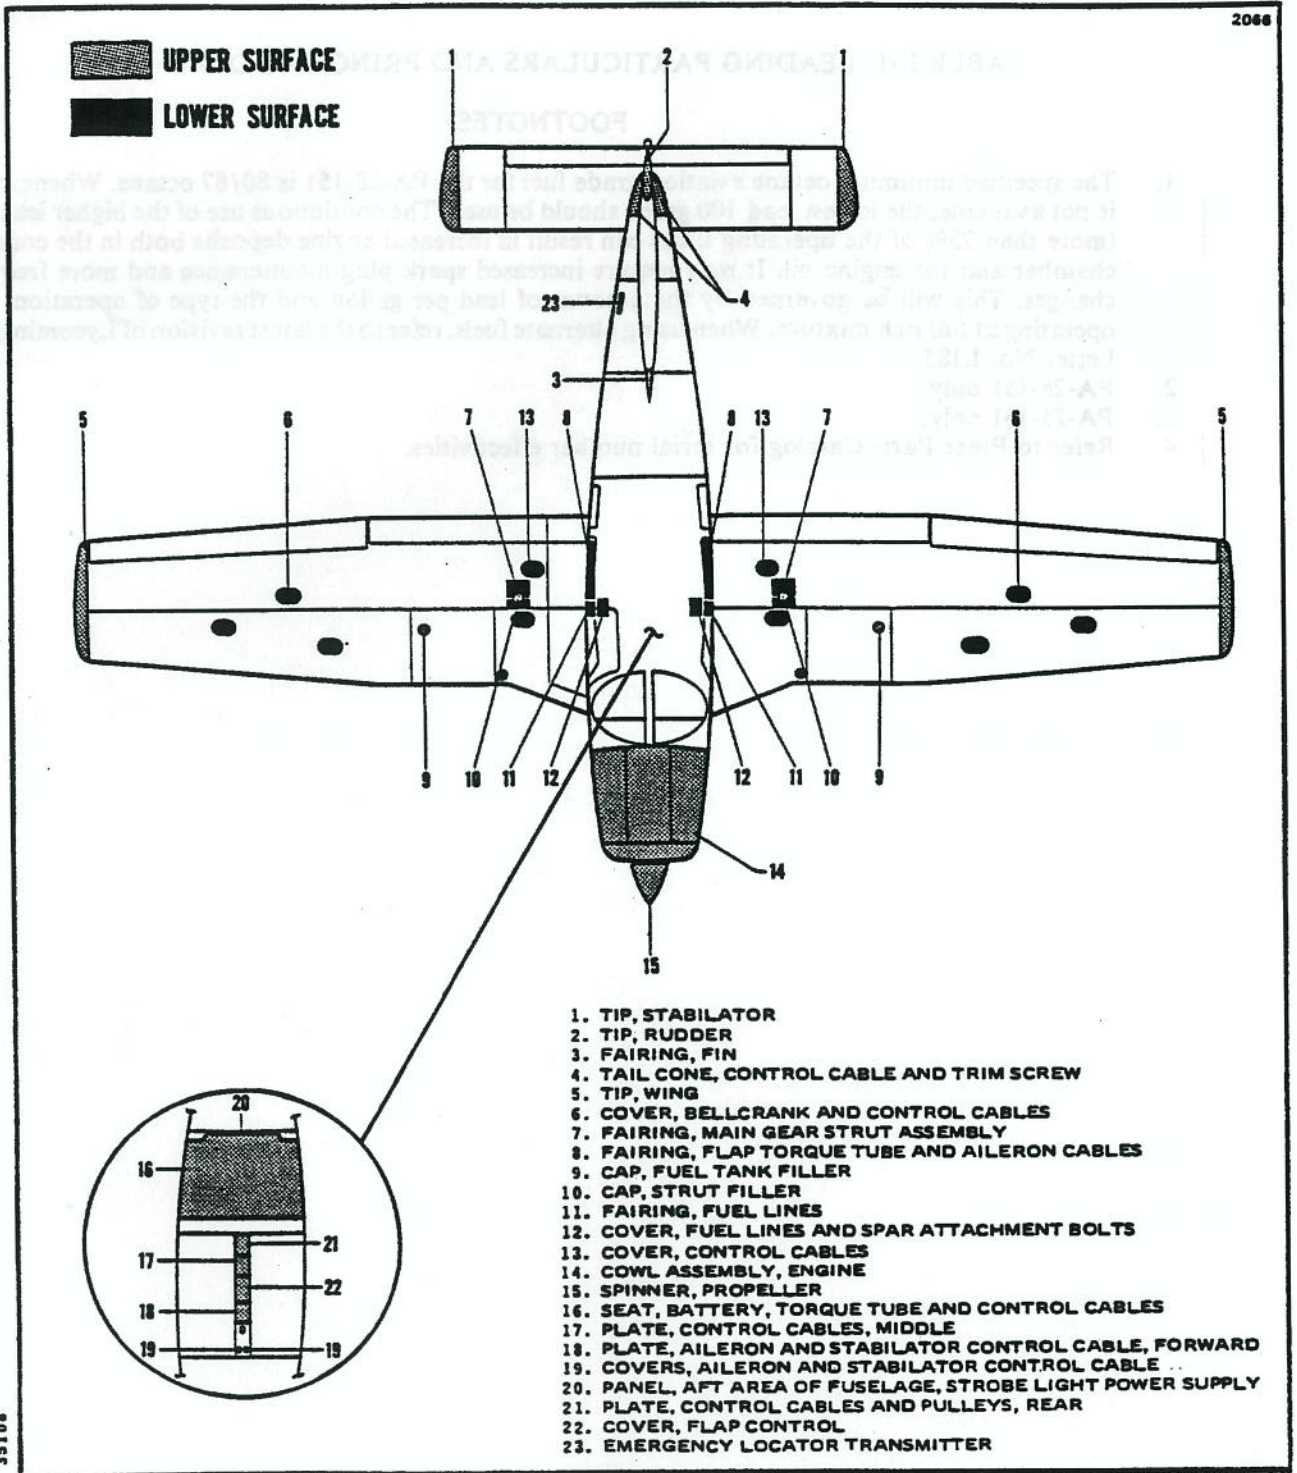

Figure 2-3. Access Plates and Panels
**2-6. ACCESS AND INSPECTION PROVISIONS.** The access and inspection provisions for the airplane are shown in Figure 2-3. The component to be serviced or inspected through each opening is identified in the illustration. All access plates and panels are secured by either metal fasteners or screws. To enter the aft section of the fuselage, open the baggage compartment door and remove the upholstery panel.